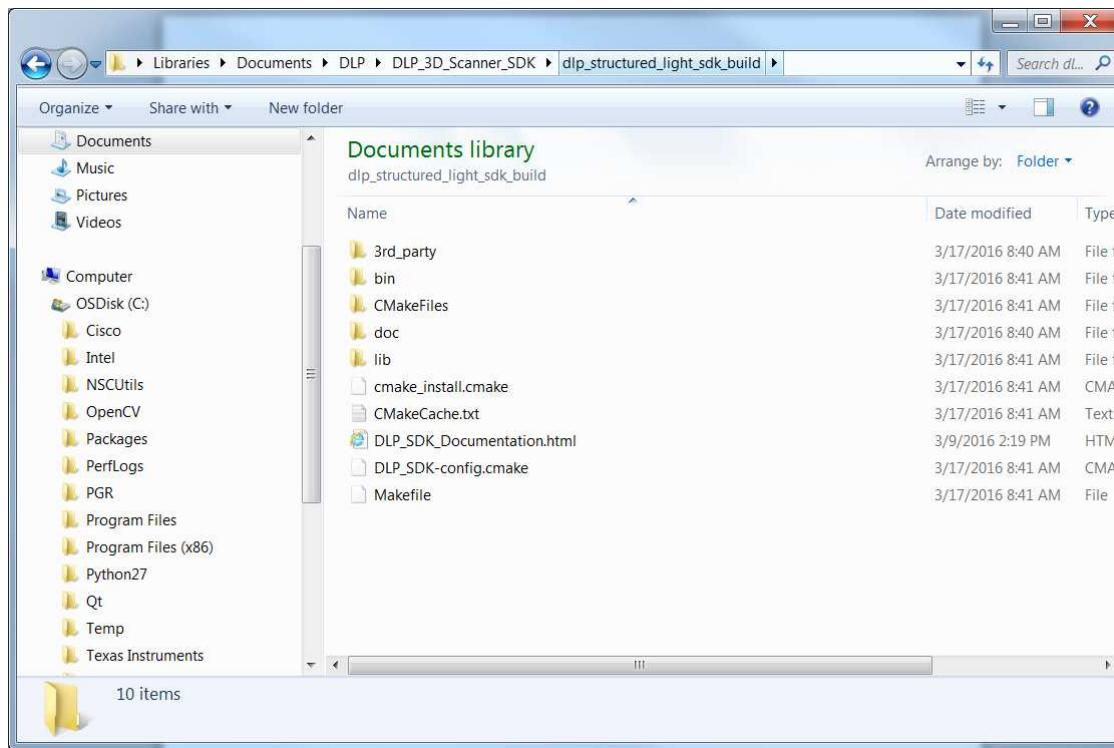
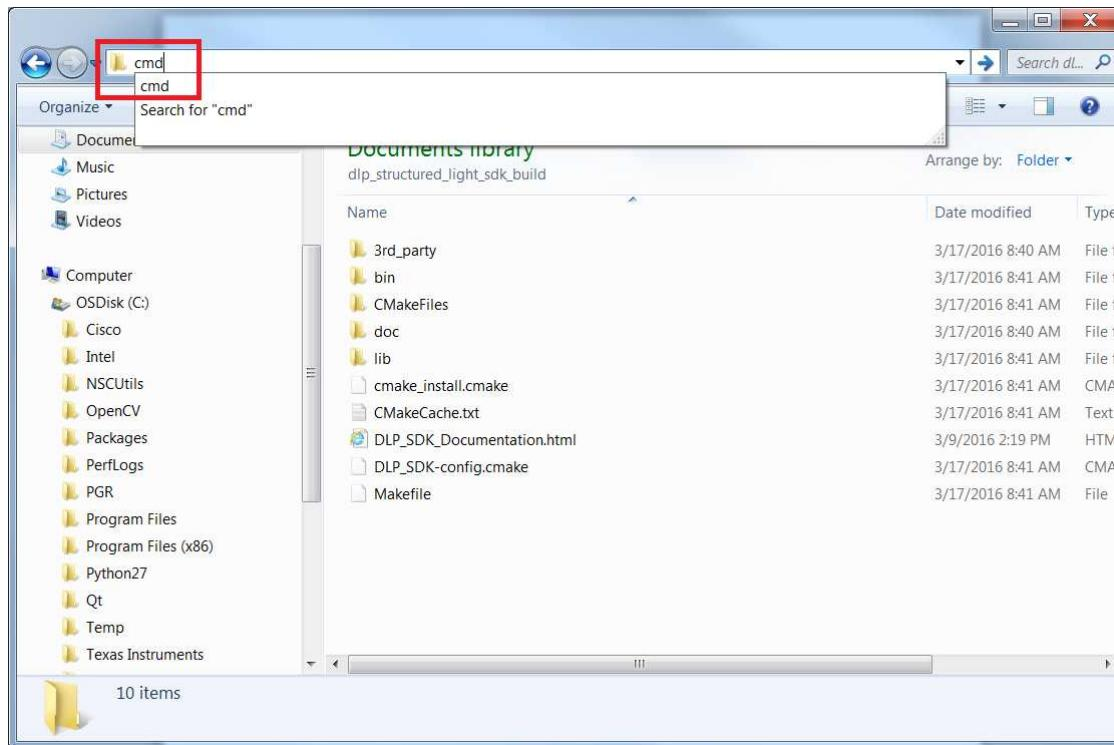

**Figure 46. DLP SDK Error**
**Figure 47. Browse for OpenCV**
**Note:** If you get an error as shown in Figure 46, you may need to point CMake to the location of OpenCV. In “Ungrouped entries” look for OpenCV\_DIR and browse for the location of OpenCV on your machine. As shown in Figure 47 an example is: C:/OpenCV. Click “Configure” once the path has been specified. There should be no errors displayed.